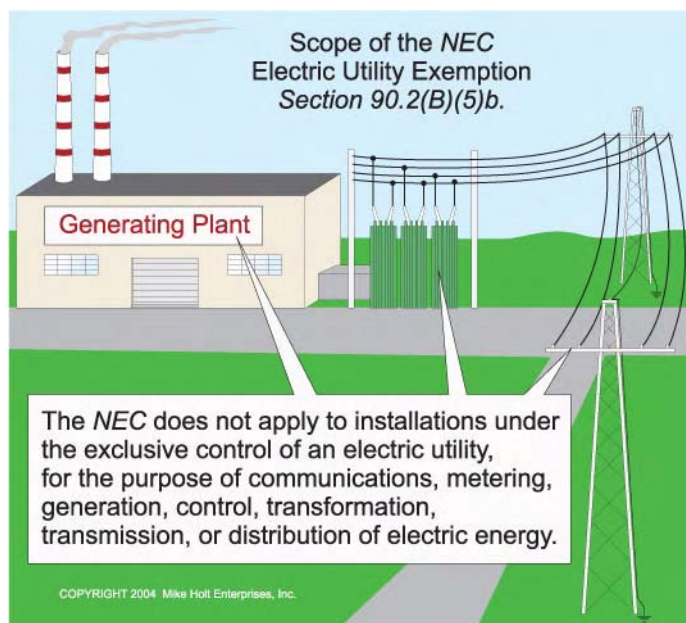

Figure 90-8
- b. Are located on legally established easements, rights-of-way, or by other agreements recognized by public/utility regulatory agencies, or property owned or leased by the electric utility. **Figure 90-8**
(5) Electric Utilities. The *NEC* doesn't apply to electric installations under the exclusive control of an electric utility where such installations:
- c. Are on property owned or leased by the electric utility for the purpose of generation, transformation, transmission, distribution, or metering of electric energy. **See Figure 90-8.**